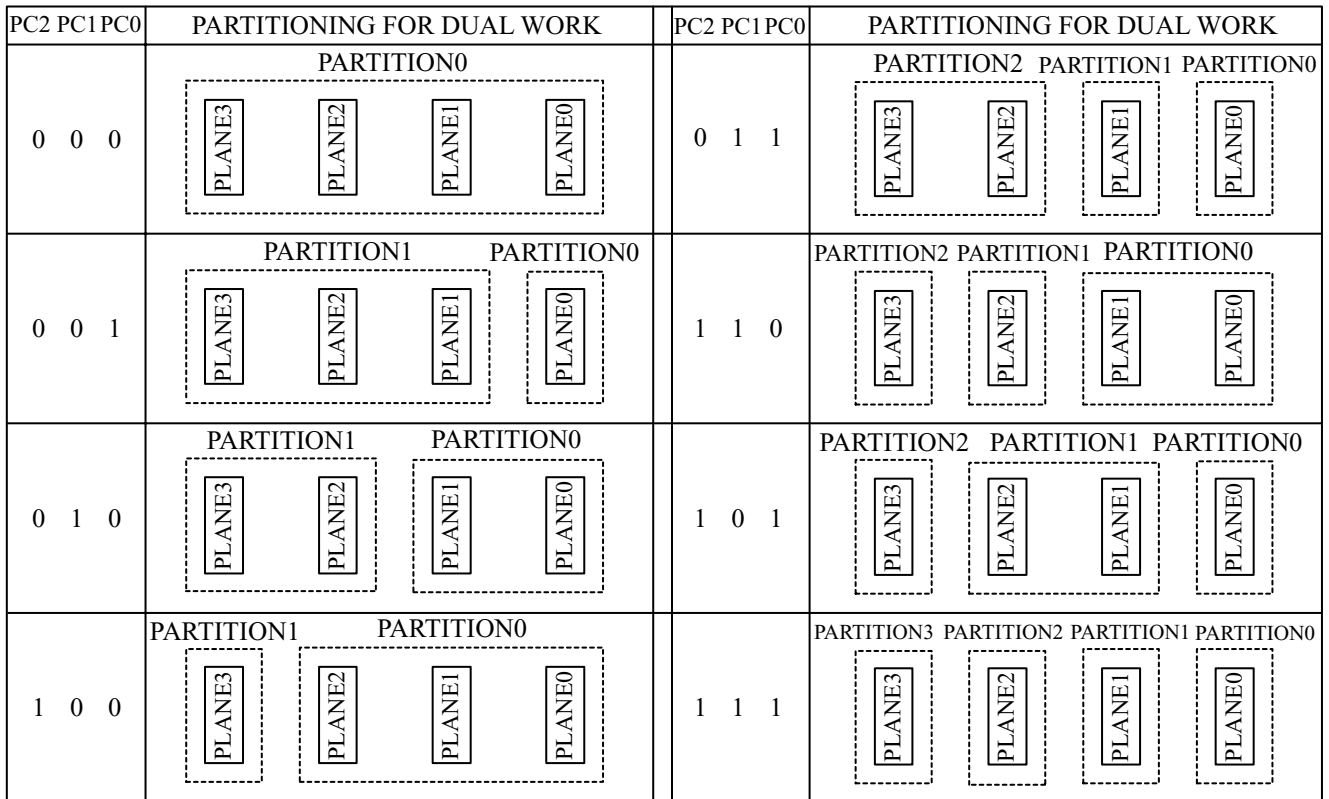

Figure 4. Partition Configuration
| <p>PCR.15-11 = RESERVED FOR FUTURE ENHANCEMENTS (R)</p> <p>PCR.10-8 = PARTITION CONFIGURATION (PC2-0)</p> <p>000 = No partitioning. Dual Work is not allowed.</p> <p>001 = Plane1-3 are merged into one partition. (default in Bank 0 selected by BE₀#=V_{IL})</p> <p>010 = Plane 0-1 and Plane2-3 are merged into one partition respectively.</p> <p>100 = Plane 0-2 are merged into one partition. (default in Bank 1 selected by BE₁#=V_{IL})</p> <p>011 = Plane 2-3 are merged into one partition. There are three partitions in this configuration. Dual work operation is available between any two partitions.</p> <p>110 = Plane 0-1 are merged into one partition. There are three partitions in this configuration. Dual work operation is available between any two partitions.</p> <p>101 = Plane 1-2 are merged into one partition. There are three partitions in this configuration. Dual work operation is available between any two partitions.</p> | <p>111 = There are four partitions in this configuration. Each plane corresponds to each partition respectively. Dual work operation is available between any two partitions.</p> <p>PCR.7-0 = RESERVED FOR FUTURE ENHANCEMENTS (R)</p> <p>NOTES:</p> <p>After power-up or device reset, PCR10-8 (PC2-0) is set to "001" in Bank 0 and "100" in Bank 1.</p> <p>See Figure 4 for the detail on partition configuration.</p> <p>PCR.15-11 and PCR.7-0 are reserved for future use and should be masked out when checking the partition configuration register.</p> |